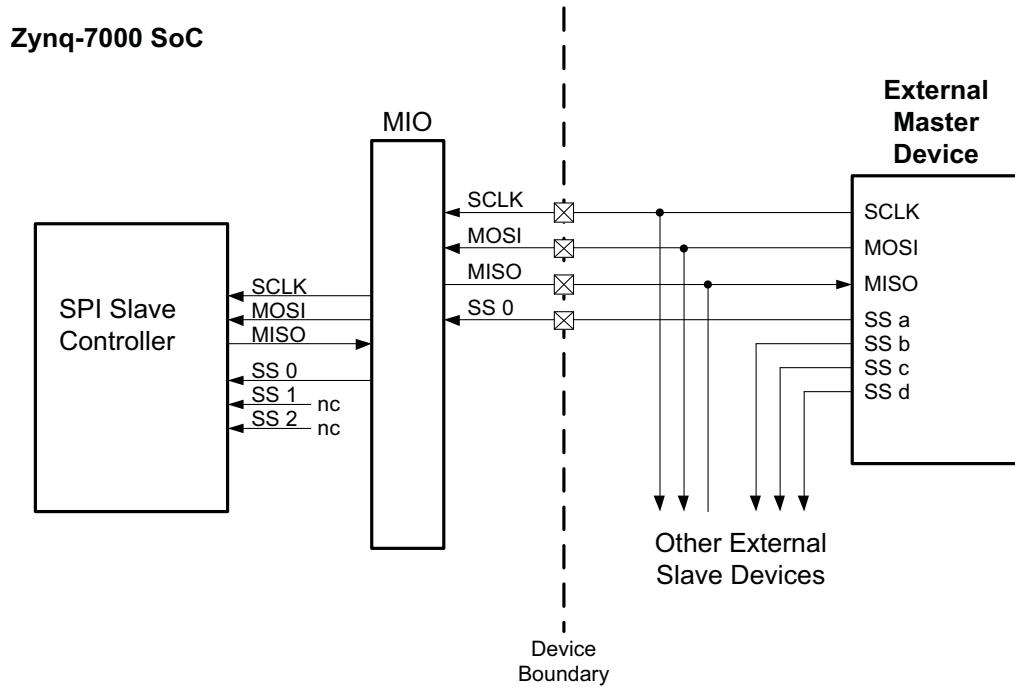

Figure 17-9: SPI Slave Mode Wiring Diagram via MIO
- Slave Mode via MIO, Figure 17-9